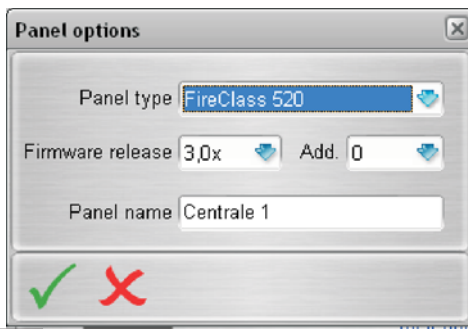

Figure 21 New panel window (Type of control panel)
Click-on this icon under "Panel 1" the window "New panel" will open, Figure 21. Here, you can choose the type of control panel, the Firmware Release, the control panel name and the possible address if more control panel are present in the system.
- Click-on this icon, in a Master control panel, a window in Figure 21 will be shown. In this window, a Slave control panel can be inserted with a name and an address, the same programmed address from the user interface of Slave control panel (see Programming from the panel).